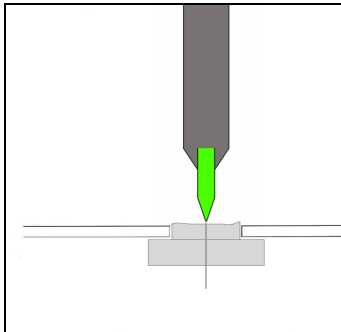

Fig.17
- Use a center punch to precisely locate the center of the pin (Fig.17).